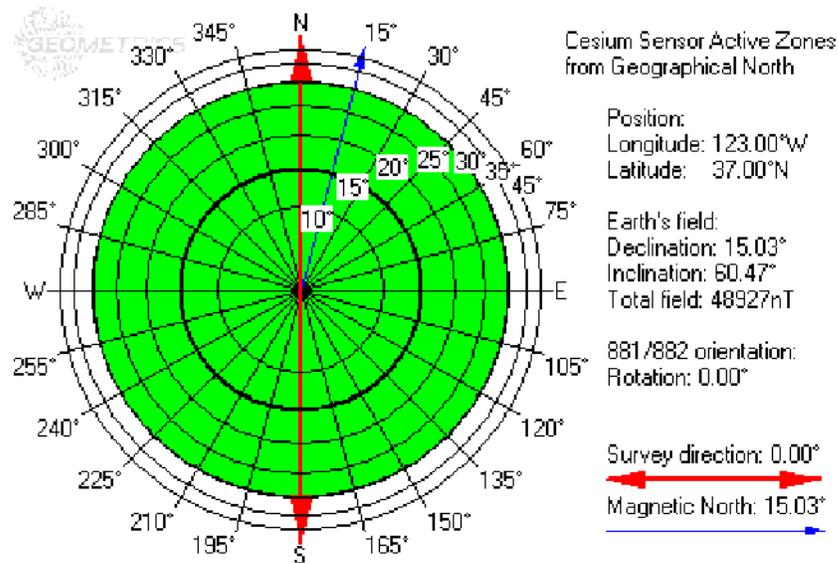

Figure 3 Active Zone Larmor Signal Plot
- d) **Active zones** - This picture displays theoretical normalized Larmor signal strength as a function of Geographical (true) survey heading (see Figure 3 below). Signal strength is plotted as a polar diagram with the circle grid values marked in degrees (white boxes with degrees below). These values represent the angle between the sensor axis and the Earth's magnetic field vector. For instance the 45° circle corresponds to maximum signal strength. Maximum signal is always achieved when the angle between sensor's long axis and Earth's magnetic field is 45° . It is recommended that for best performance the theoretical signal exceed the 15° degree circle (bold circle) in the survey direction (see below for more discussion).